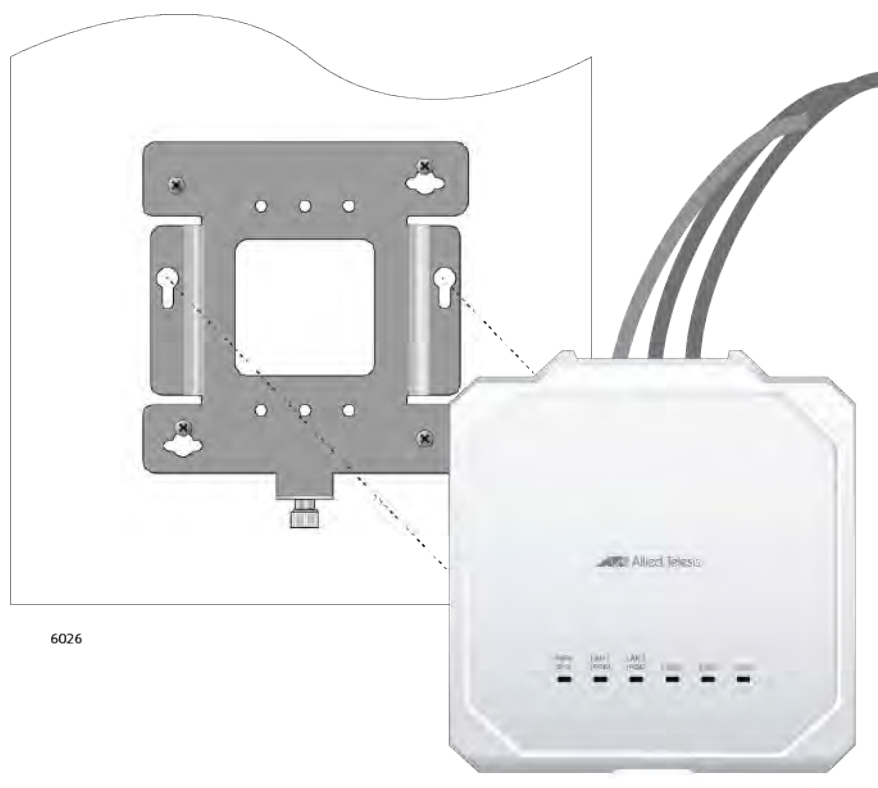

Figure 25. Installing the Access Point on the Mounting Bracket
1. Align the bottom of the access point over the bracket so that the two screws on the bottom of the device fit into the bracket keyholes. Refer to Figure 25. (These are the two access point chassis screws installed in “Pre-fitting the Mounting Bracket on the Access Point” on page 40.)